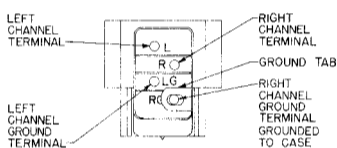

FIGURE 1
CONNECTIONS (see Figure 1): Right "hot" lead (usually red) to "R," right ground (usually green) to "RG." Left "hot" lead (usually white) to "L," left ground (usually blue) to "LG." If metal head is causing ground loop hum, remove the ground tab. The metallic cartridge shield is disconnected from the right channel ground by the removal of the ground tab.
2. Connect leads to cartridge (see Figure 1).
2. Enfitez les cosses sur la cellule (voir fig. 1).